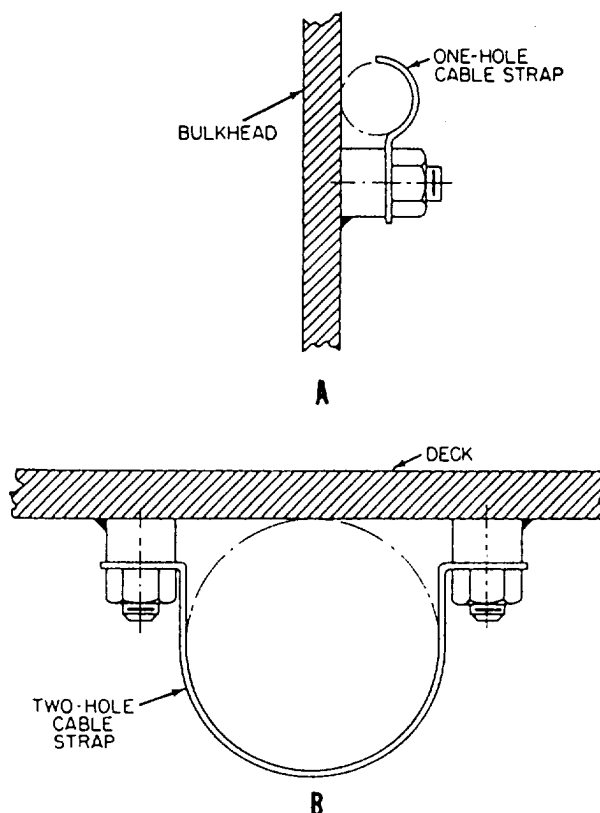

Figure 2-44. Single cable strap applications.
**SINGLE CABLE STRAP.**— The single cable strap is the simplest form of cable support. The cable strap is used to secure cables to bulkheads, decks, cable hangers, fixtures, and so on. The one-hole cable strap (fig. 2-44, view A) may be used for cables not exceeding five-eighths of an inch in diameter. The two-hole strap (fig. 2-44, view B) may be used for cables over five-eighths of an inch in diameter. The spacing of simple cable supports must not exceed 32 inches center to center.